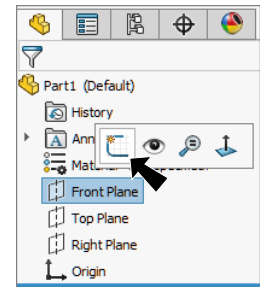

Fig. 1
Step 2. Click **Front Plane**  in the Feature Manager and click **Sketch** on the context toolbar, **Fig. 1**.